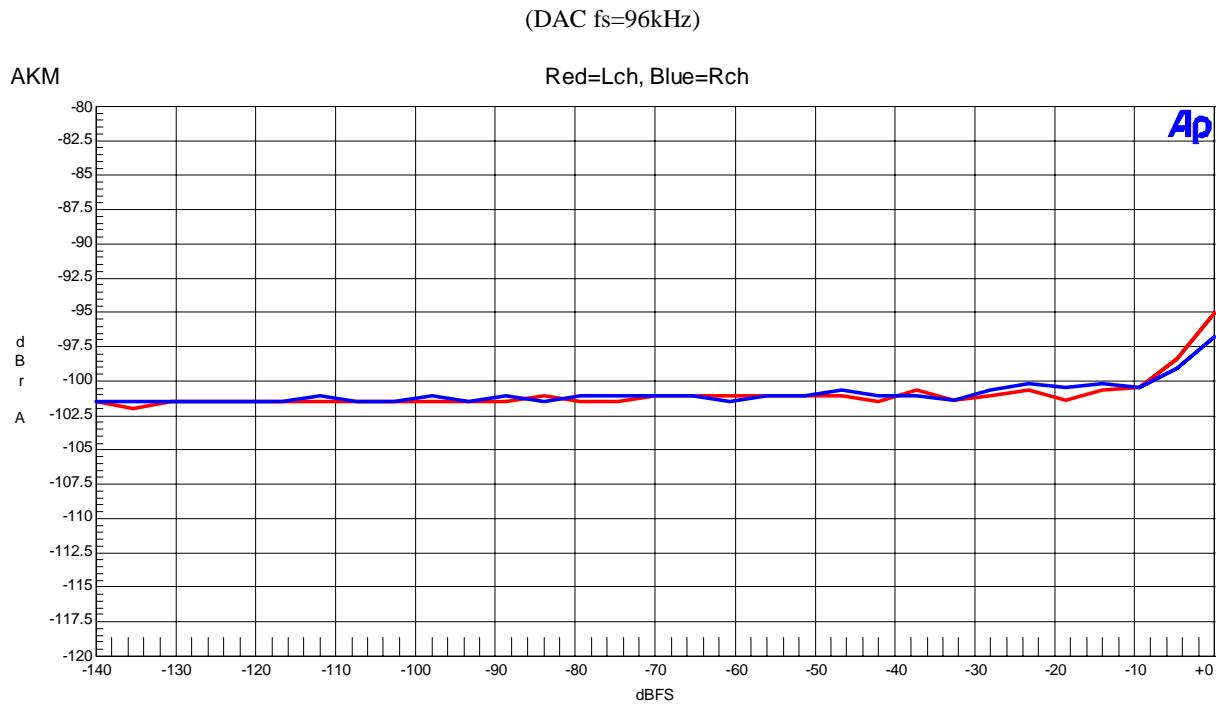

Figure 36 THD+N vs Input Level (fin=1kHz)
- Figure 36 THD+N vs Input Level (fin=1kHz)